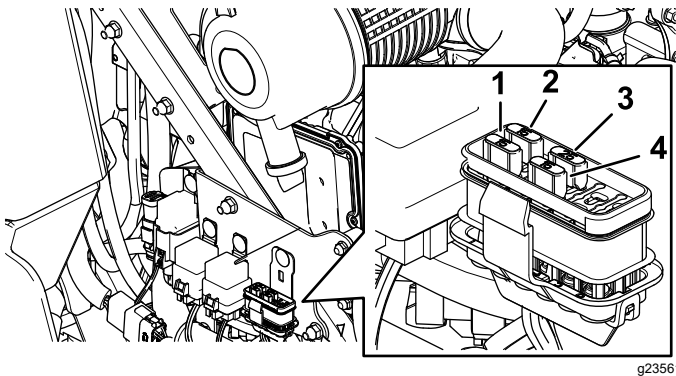

Figure 50
3. Install a new fuse (Figure 50).